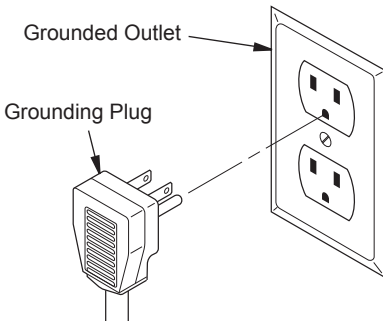

Figure 20 - Grounding Plug
**⚠ WARNING:** Fan accessory must be grounded. Fan comes with a three-prong, grounding plug as shown in Figure 20. The plug is your protection against electrical shock. Plug it into a standard, three-hole, grounded, outlet. If cord needs replacing, use only a cord with a three-prong, grounding plug.